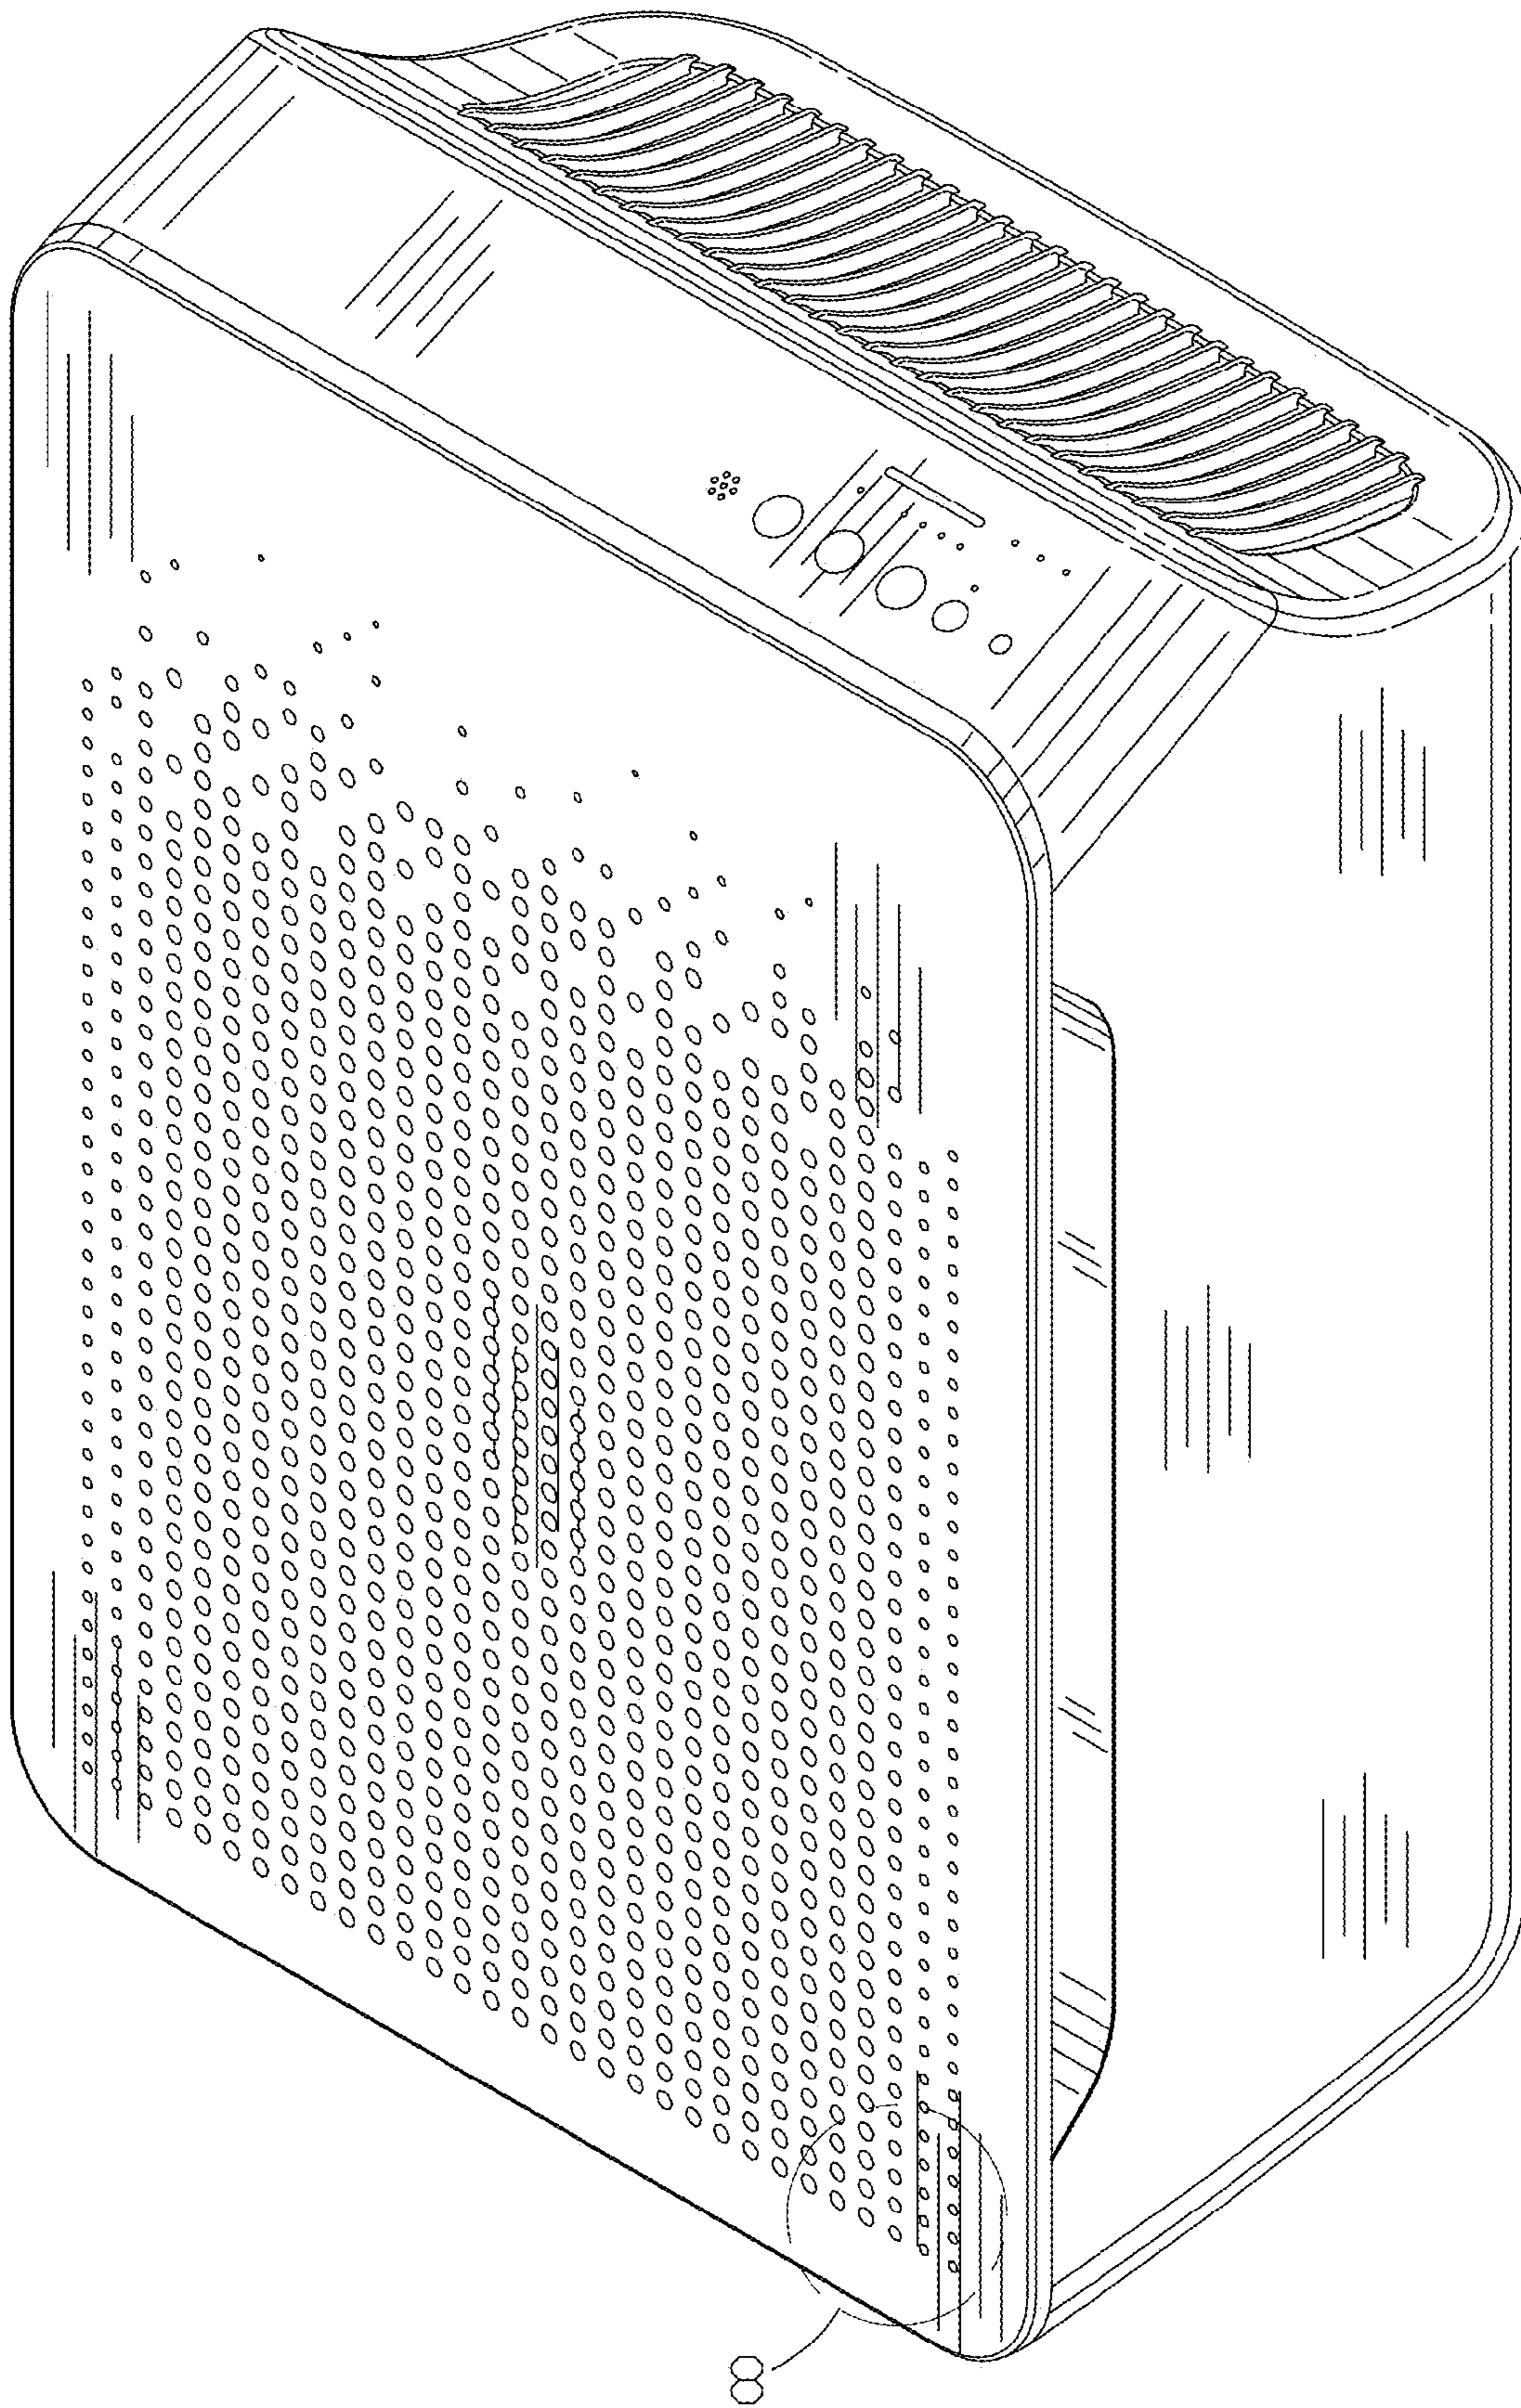
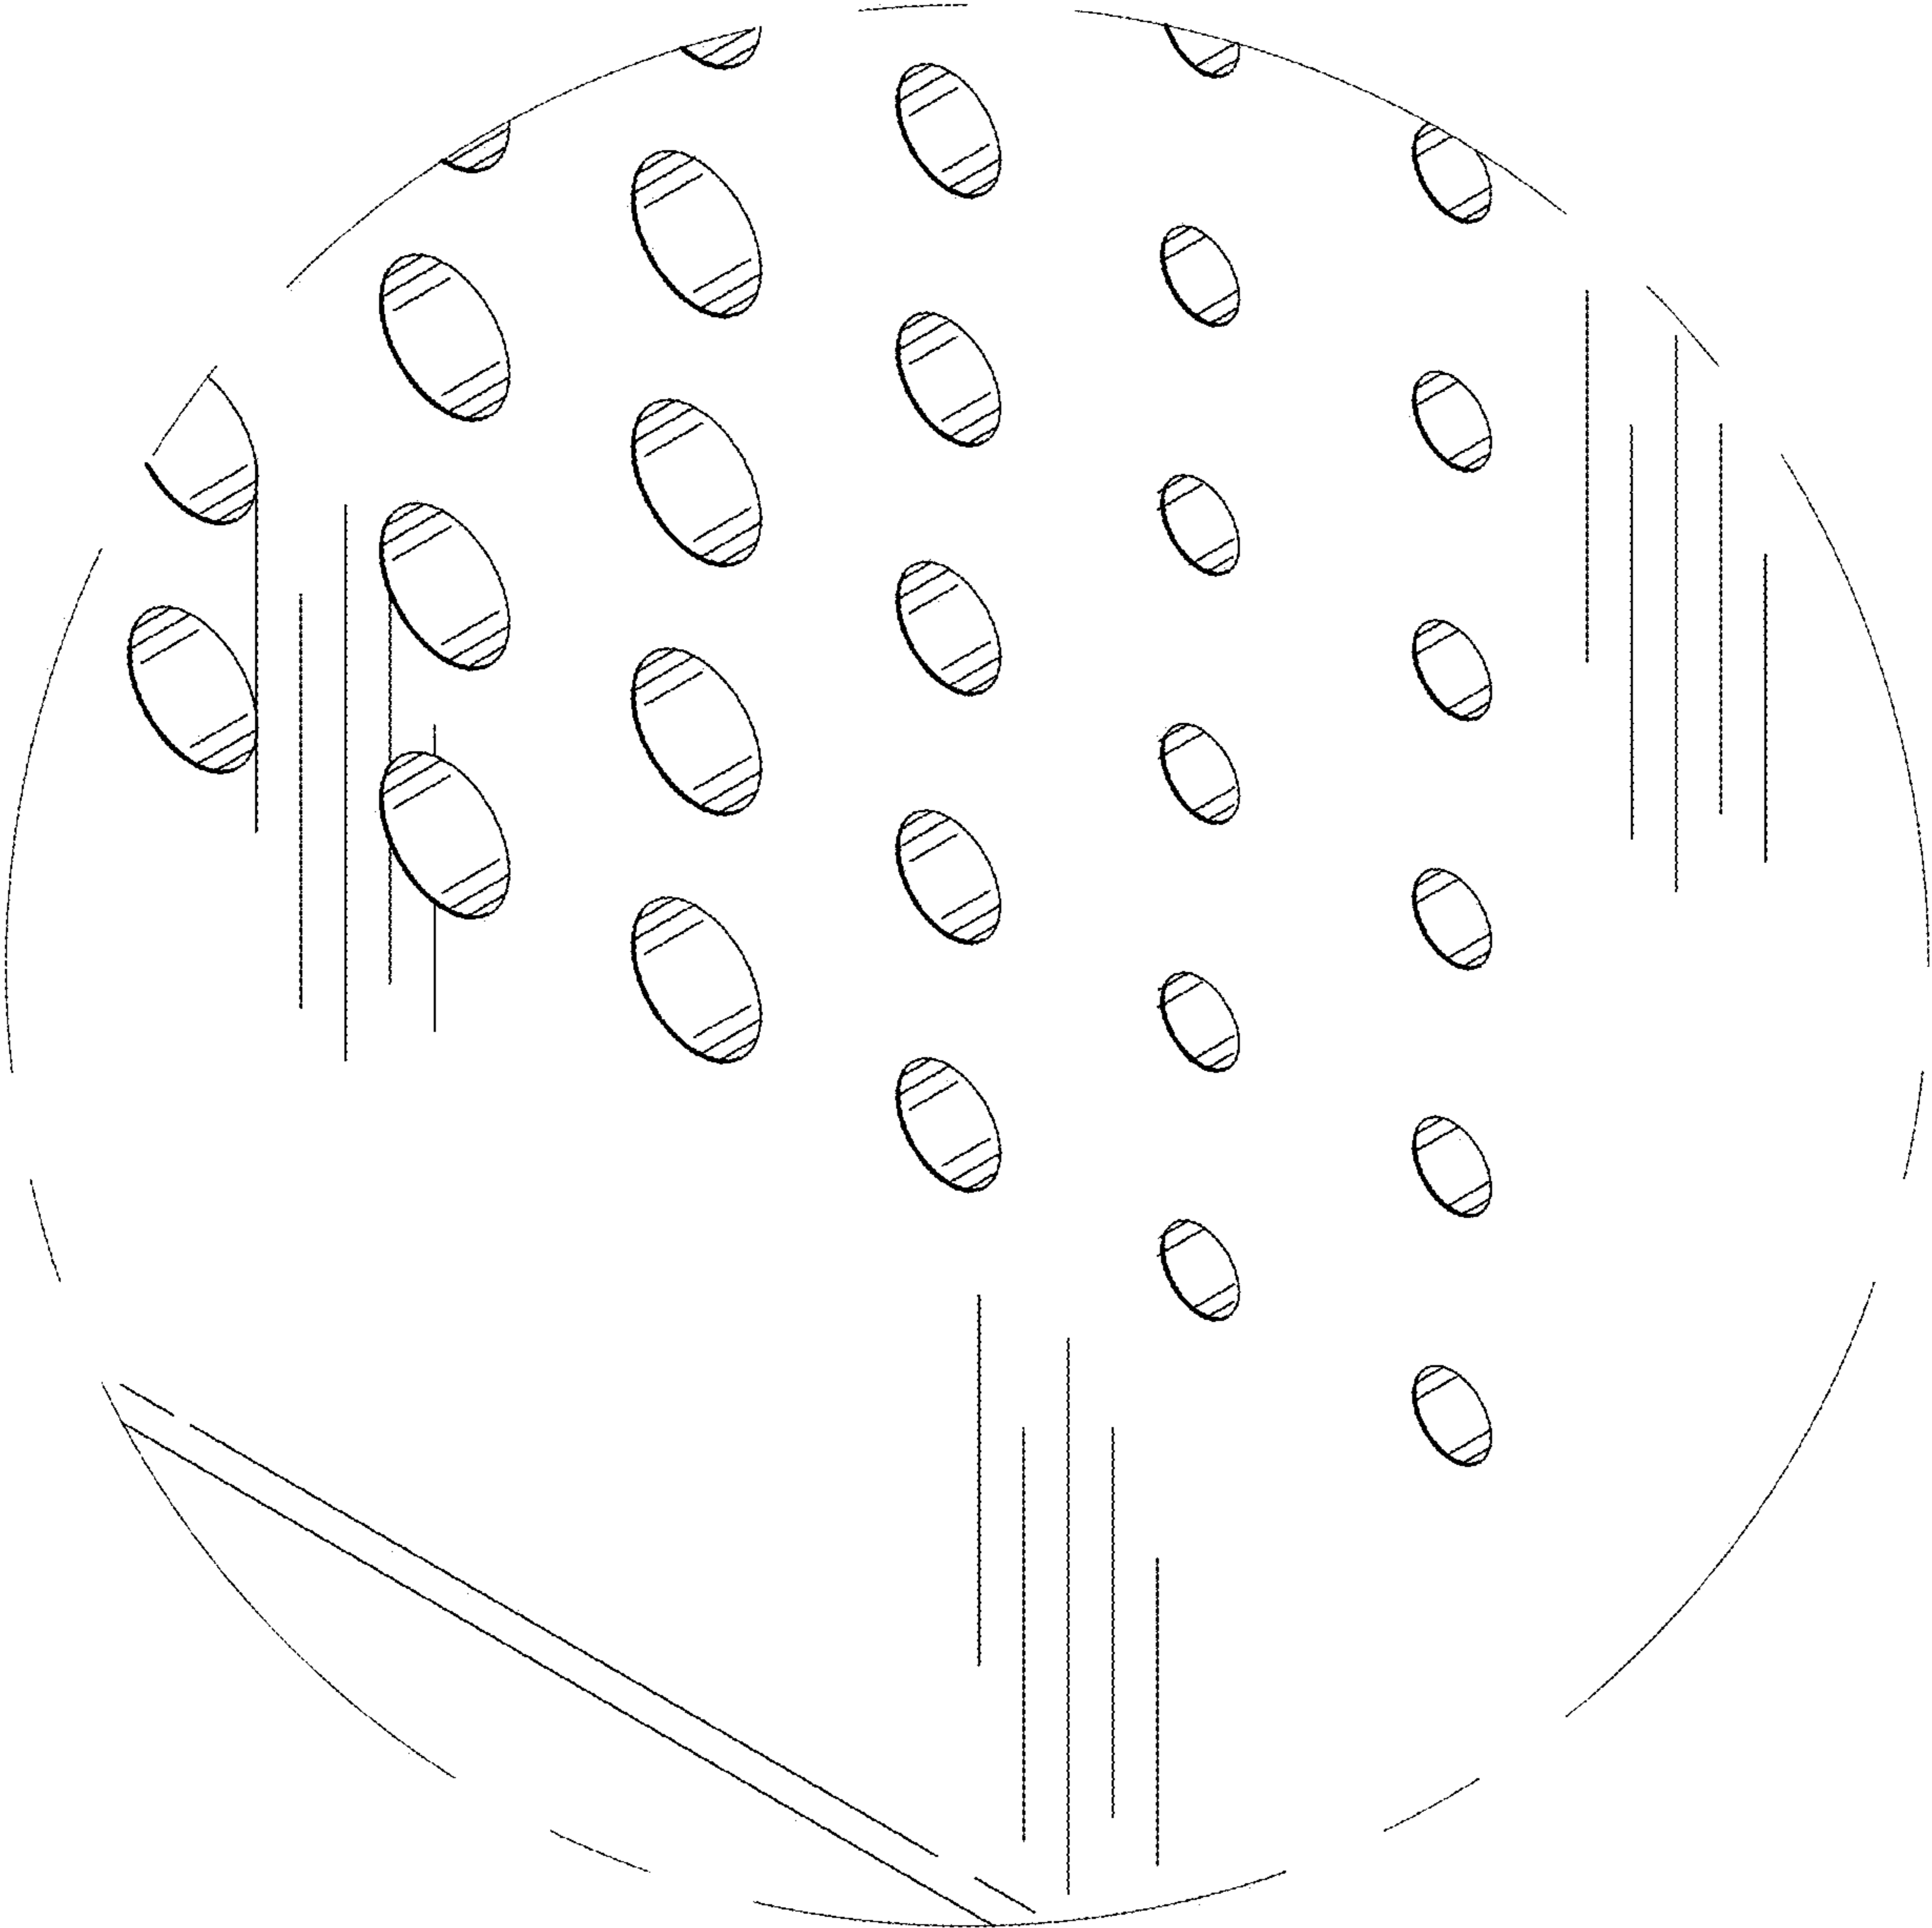

FIG. 1
FIG. 8
FIG. 1 is a top, side perspective view of an air cleaner;
FIG. 8 is an enlarged view of item 8 shown in FIG. 1.